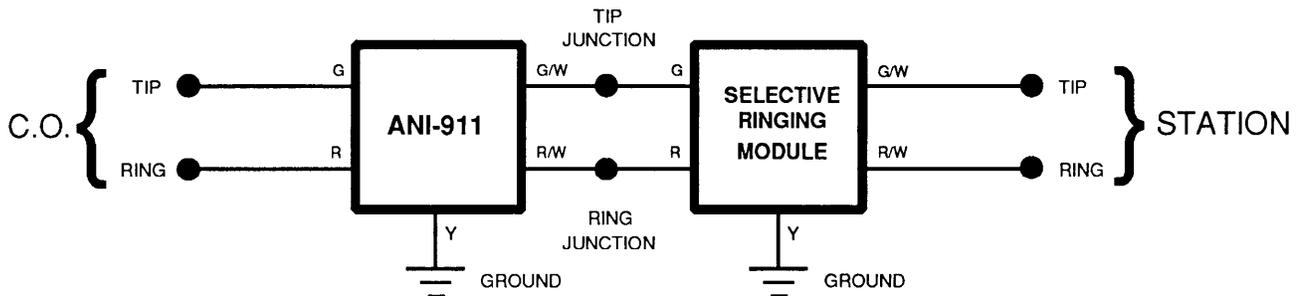

Fig. 3—Block Diagram showing DNI-910 wired in conjunction with a selective ringing module
**3.07** When installing the DNI-910 in conjunction with a Keptel Selective Ringing Module, refer to Figure 3.
**3.08** If installing the DNI-910 in conjunction with a Selective Ringing Module or Ringer Isolator, made by a manufacturer other than Keptel, refer to Figure 3.